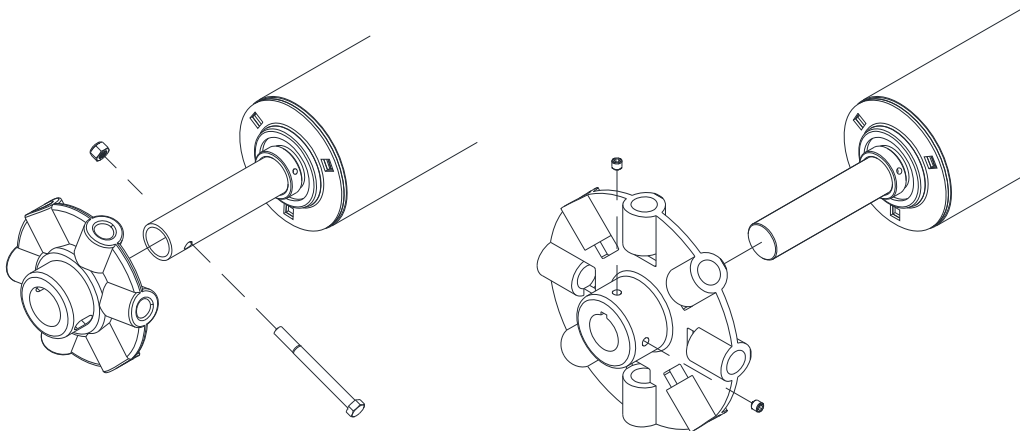

Figure 6.2 – Removal of Adjustor Wheel from Barrel Assembly
5. Typically the adjusting wheel is not shipped attached to the barrel. However, if the adjusting wheel is attached to the barrel, remove by loosening the bolt or set screws that secure the adjusting wheel to the barrel and sliding the wheel off the inner shaft. See **Figure 6.2**.
10. Remove the adjusting wheel if you haven’t previously, and slide the adjustor bracket over the inner shaft of the barrel assembly. Install the adjusting wheel (see **Figure 6.2**).